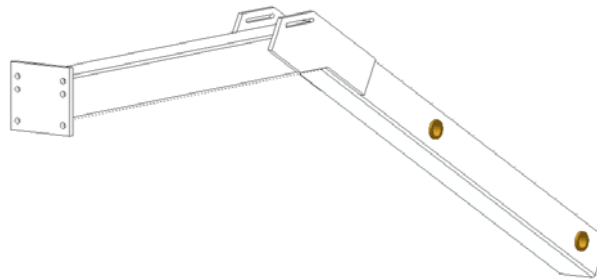

Figure 6-4: Backstop boom.
- Support backboard such that the mounting holes in the bottom middle of frame are in line with the bolt pattern on the end of the boom (Figure 6-4). Sawhorses or a forklift may be used if additional hands are not available to help.